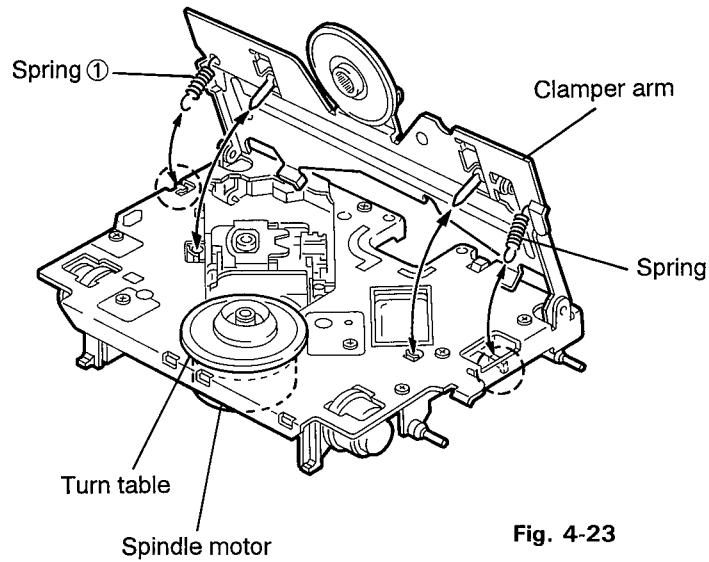

Fig. 4-23
1. After turning back the CD mechanism to initial position, remove the two springs ④ and ① on both the right and left sides of the clamper arm (See Figs. 4-23 and 4-24).